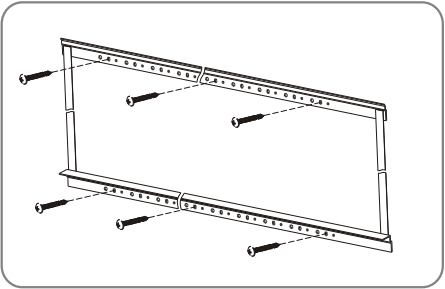

figure 11
- a. Wood wall installation: fix the top and low bracket on the wall using the  $\phi 5 \times 60 \text{mm}$  wood screw (3 screws on each bracket) (figure 11).